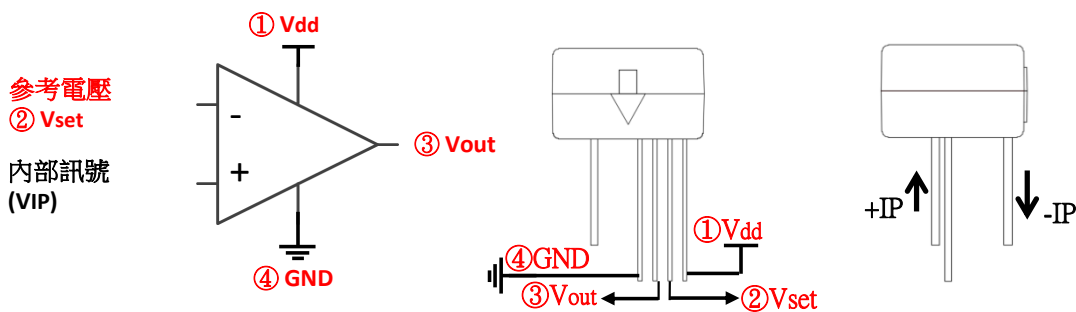

Fig. 2
3. **Set the Overcurrent Value** : V_{set} pin and V_{out} pin are open-circuited, which is shown in Fig.2. The V_{set} pin input the above-mentioned measured voltage value. The V_{IP} is an internal Hall sensing signal, which converts into a proportional voltage according to the IP current.
2.1 Set the Reference Voltage V_{set} : V_{set} pin and V_{out} pin are open-circuited, which is as shown in Fig.2. The V_{set} pin input voltage range is 0~ V_{dd} .